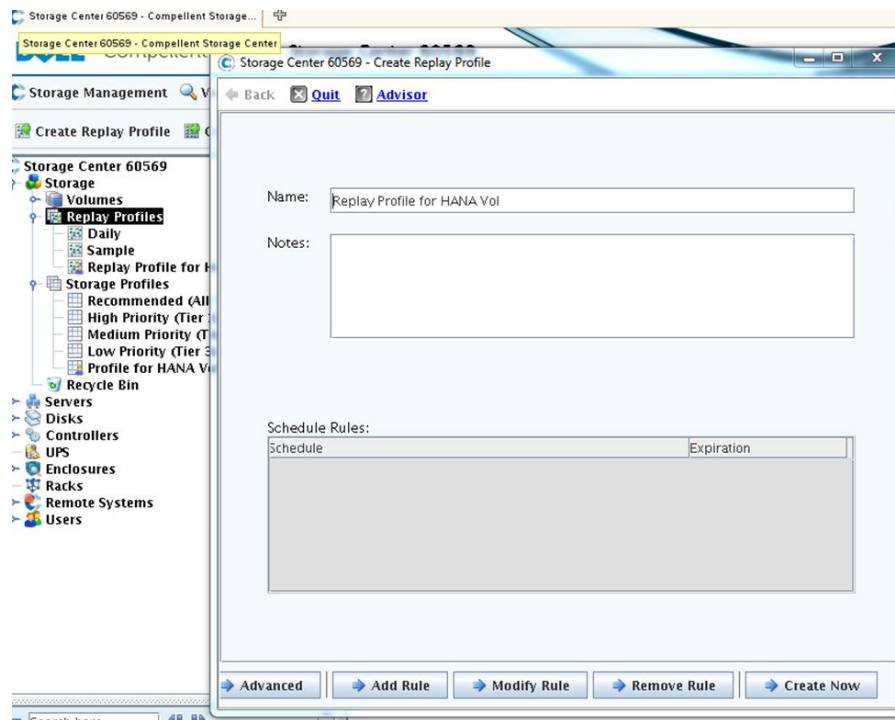

Figure 31. Create the replay profile
2. Type a name for the replay profile, such as Replay Profile for HANA Vol, and then click **Add Rule**, as shown in Figure 31.